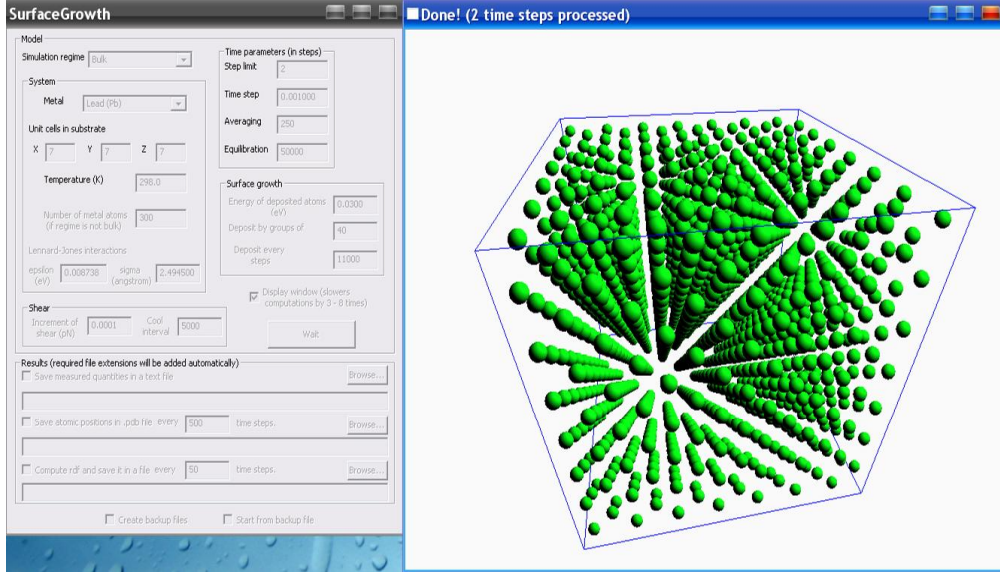

Figure 5: OGL window in Bulk regime.
- 8 – flag which defines whether to show the system in the OGL window in real time (see Fig. 5). As has been already noted, this flag leads to the considerable degrade of the performance (up to 8 times), so OGL window should be used only for small systems (this depends on the GPU, may be up to about 10000 atoms) and for demonstration purposes. When the OGL window is used, the system is displayed inside a cube, and the length of its edge is defined by the maximal length of the simulation box in the xy plane. It is possible to perform the following actions in this mode:
- rotate the system around x and y axes using the mouse with the pressed left button (LB);
- shift the system using LB+Shift, or by pressing middle button (MB) of mouse and moving it;